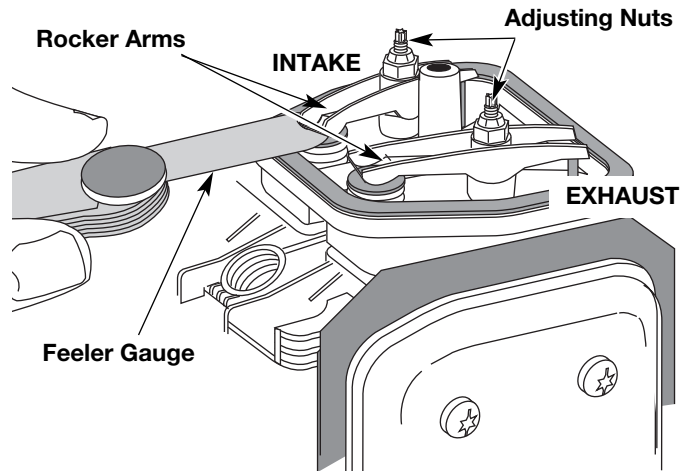

Figure 40
9. Slide the feeler gauge between the rocker arm and the valve return spring. Measure the clearance between the valve stem and rocker arm. See Figure 40. Measure both the intake and exhaust valves.
The recommended clearance for both intake and exhaust is .003 – .006 in. (.076 – 0.152 mm). Use a standard automotive .005 in. (0.127 mm) feeler gauge. The feeler gauge should slide between the rocker arm and valve stem with a slight amount of resistance, without binding. See Figure 40.